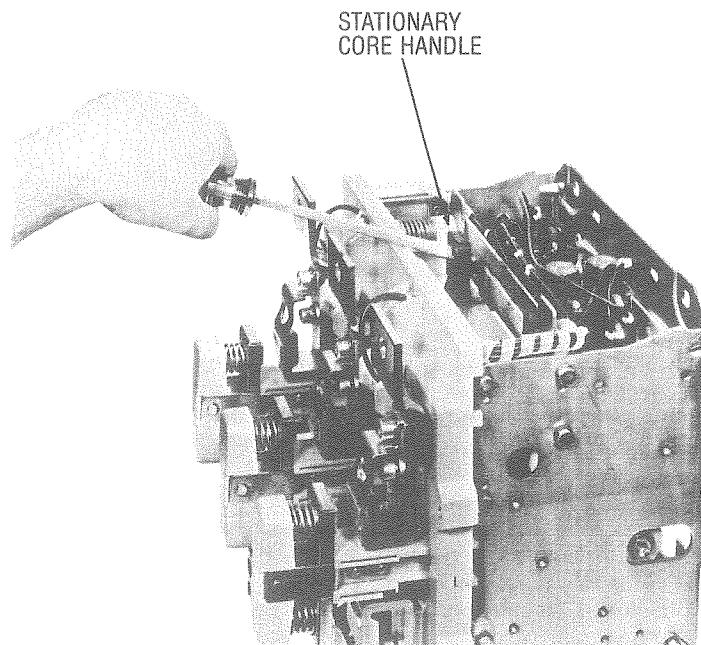

FIG. 1 — COIL REMOVAL
4. Remove feeder group cover and insert the tip of a long shaft screwdriver into the eye of the stationary-core handle as shown in Fig. 1. Using the screwdriver as lever, gently pry stationary core upward until detents on the sliding blocks engage stop bars of contactor frame.